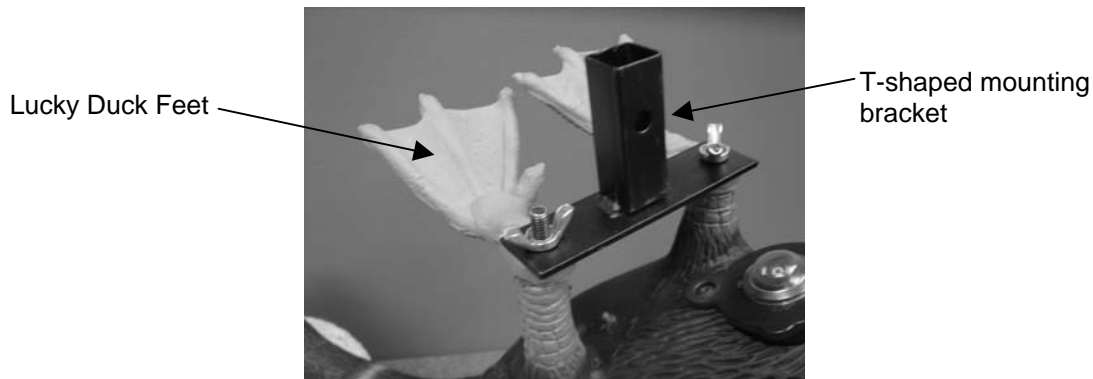

Figure 1
- 4) Slide the T-shaped mounting bracket over the studs as indicated in the Figure 1 below.